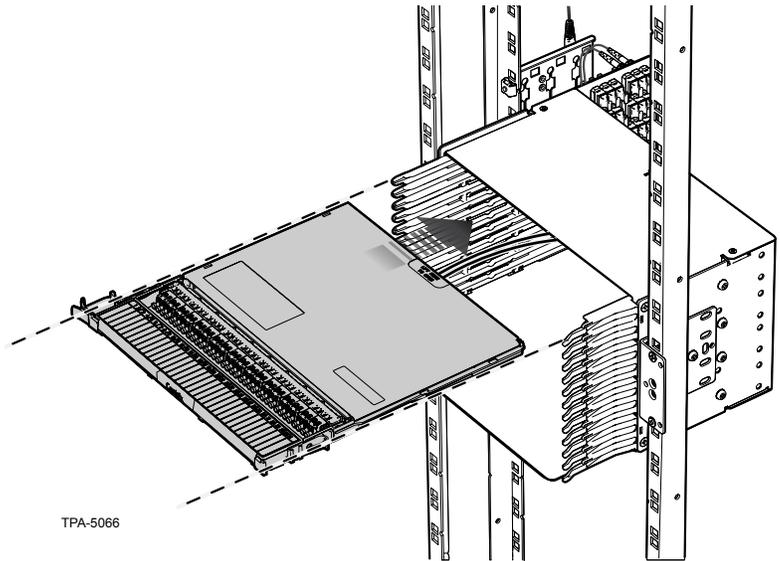

Figure 5
- Step 7:** Feed the MTP® pigtails through from the front of the housing to the back (Figure 5).